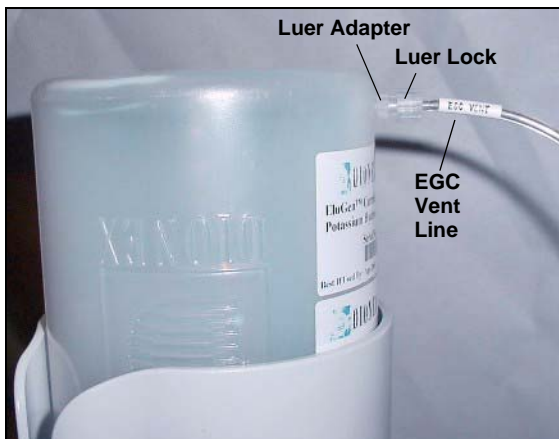

Figure 5-46. EluGen Cartridge Vent Line and Luer Fitting
4. Remove the EluGen cartridge **VENT** line (see Figure 5-46) from the EluGen cartridge by unscrewing the luer lock from the luer adapter.